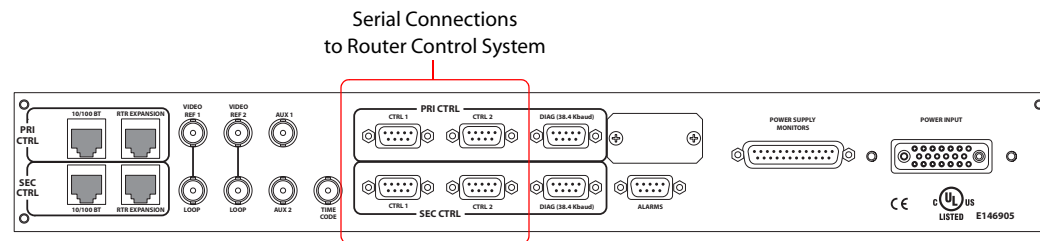

Figure 3-13. Serial Control Connections to Control System (Rear View)
- 1 Locate the serial control connections on the rear of the router, as shown in Figure 3-13. Serial control connections are labeled ‘PRI CTRL’ and ‘SEC CTRL’.